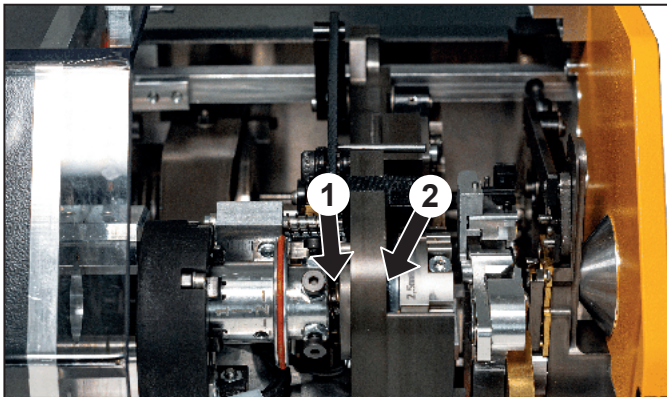

Figure 7.4 Crimp cylinder lubrication points
- ▶ Lubricate the crimp cylinder on lubrication point 1, see Figure 7.4.
- ▶ Press the crimp cylinder to the right and lubricate it at lubrication point 2, see Figure 7.4.